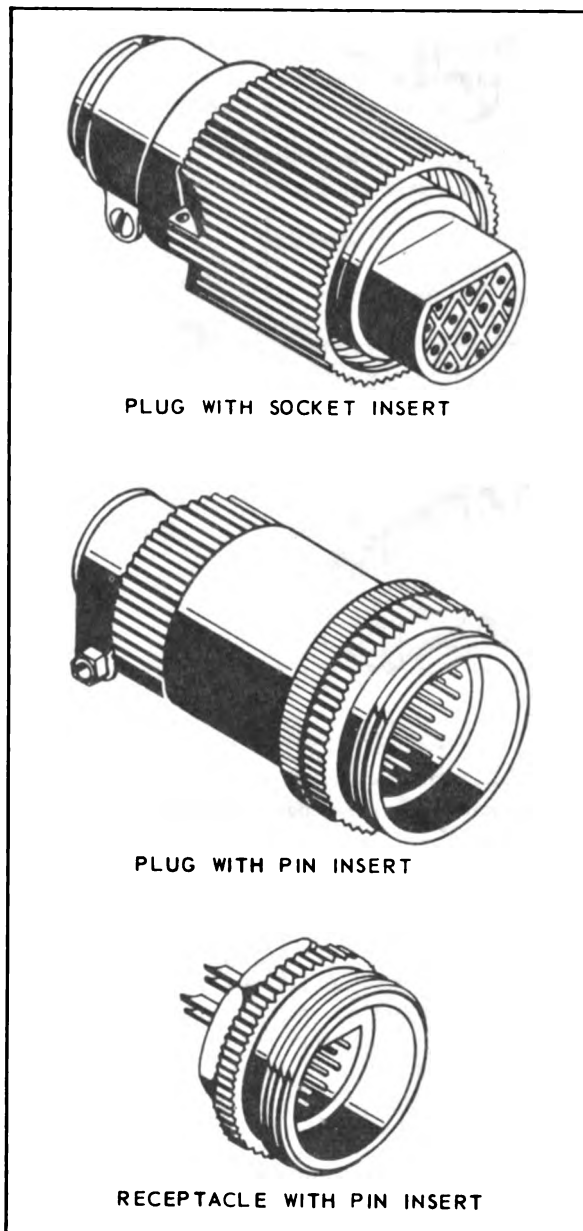

Figure 3-14. Subminiature Connectors
b. Subminiature connectors (Cannon US series). These are wire connecting types only; they have no mounting flanges, but can be mounted with nut and lock-washer. They are used on instruments, switches, relays, transformers, amplifiers, etc. See figure 3-14.